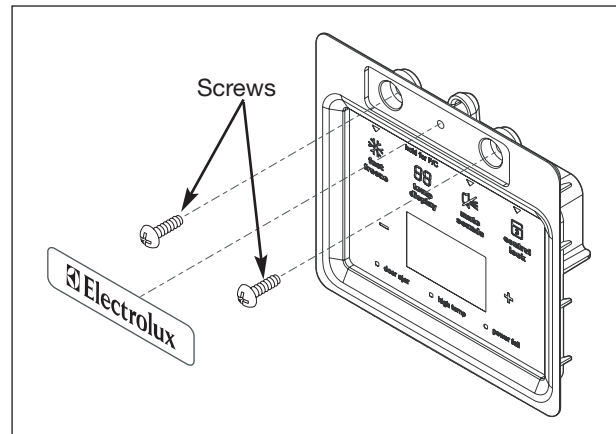

Figure 5-8. Control Removal
1. Carefully pry nameplate from user interface, using caution not to damage the plated plastic bezel. (See Figure 5-8)